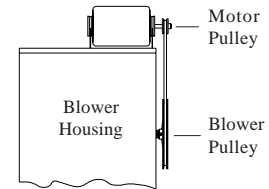

Fig. 3
• **Install pulley.** Install the adjustable motor pulley so that it aligns with the blower drive pulley (see Fig. 3) and tighten set screw.